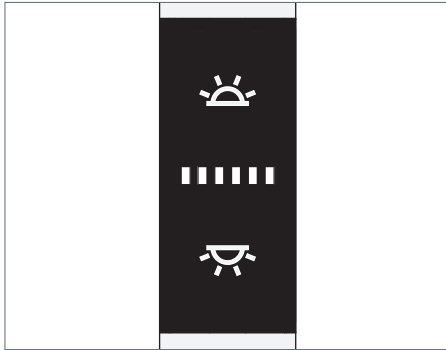

Fig. 3: Control element.
- Press the upper button, see Fig. 3.
- Press the lower button, see Fig. 3.
- Press the upper button and keep this button pressed, see Fig. 3.
- Press the lower button and keep this button pressed, see Fig. 3.